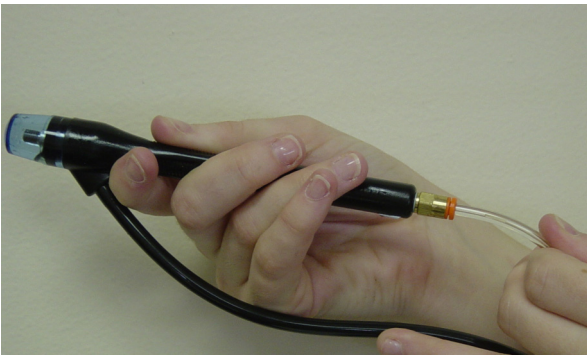

Figure 6: Connect Supply Tubing to Handpiece
- a. The clear tubing is approximately 12.5cm shorter than the black or blue tubing on one end. Insert the clear supply tube at this end into the quick disconnect fitting on the base of the handpiece. Insert the tube into the fitting until you feel resistance; pause, then push the tube slightly farther into the fitting to lock the tube in place (see Figure 6).